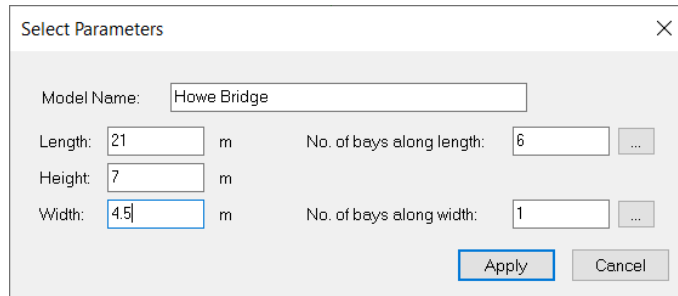

Figure 2-55 The Select Parameters dialog box
Step 4: In this dialog box, specify the length, height, width, and number of bays parameters, as shown in Figure 2-55.